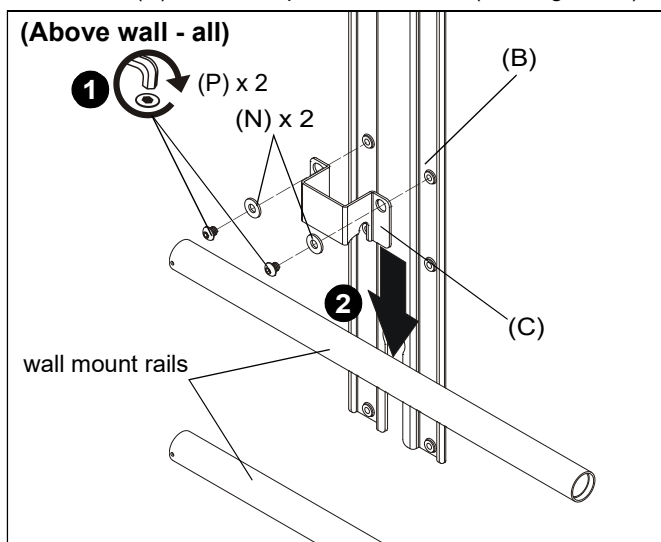

Figure 13
1. Use two 1/4-20 x 1/4" button head cap screws (P) and two large washers (N) to secure shelf bracket (C) to main bracket (B). (See Figure 13)
2. Slide main bracket (B) behind wall mount rails until shelf bracket (C) rests on top wall mount rail. (See Figure 13)